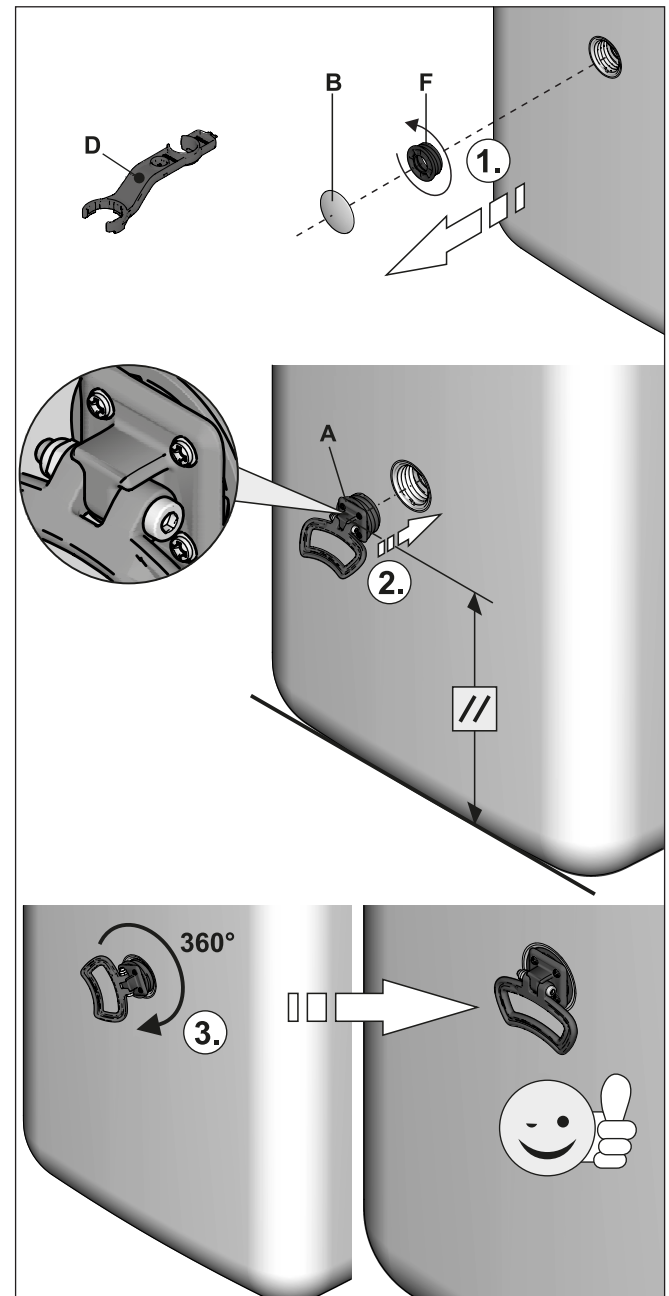

Fig. 3-6 Installing the handles
- Pull the cover screens off the storage tank (Fig. 3-6, item B) and unscrew the threaded fittings (Fig. 3-6, item F) from the openings at which the handles are to be fitted.
- Screw the handles (Fig. 3-6, item A) into the now uncovered threaded holes.